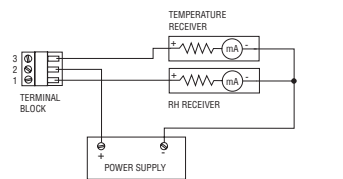

Figure 2
5. Proceed with wiring according to Figure 2. A liquid tight cable connection is included with the unit. Fits .100 - .260 dia. cable.
Sensor excitation power is derived from the relative humidity channel, so power must always be applied to that channel. If the temperature channel is not equipped or used, it can be left disconnected. The basic two-wire connection is shown in Figure 2.